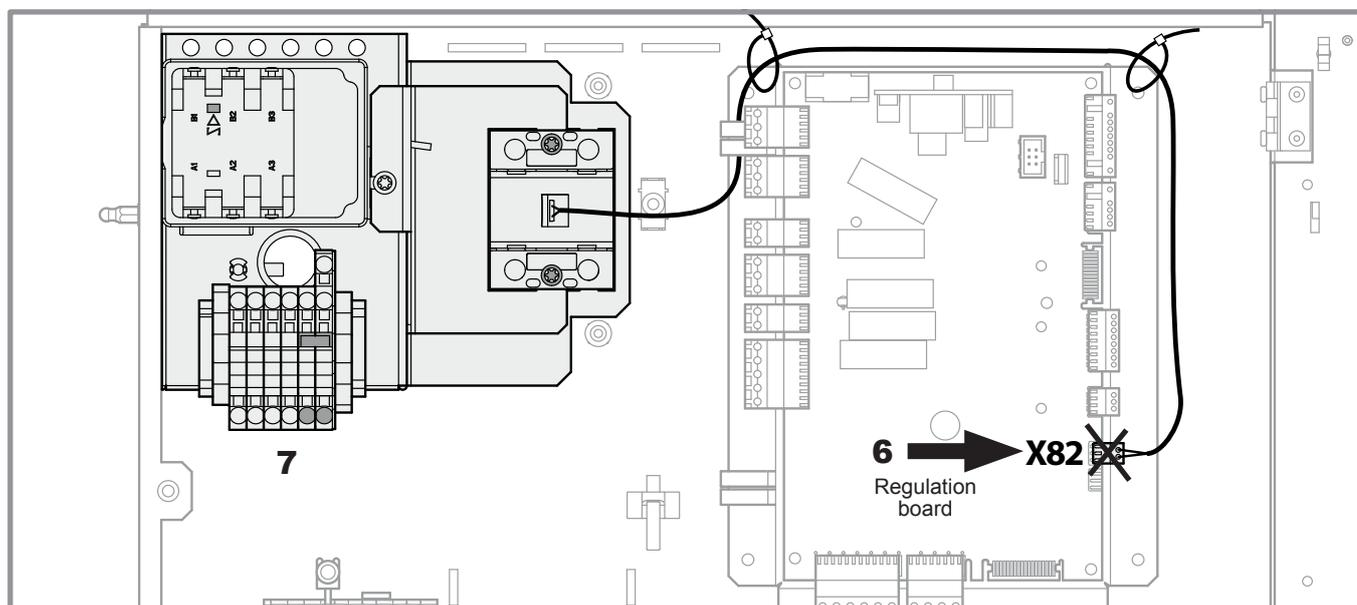

figure 8 - Disconnection of the 3-phase electrical back-up
- **6** - Disconnect the **X82** connector (3-phase electrical back-up, see figure 8).